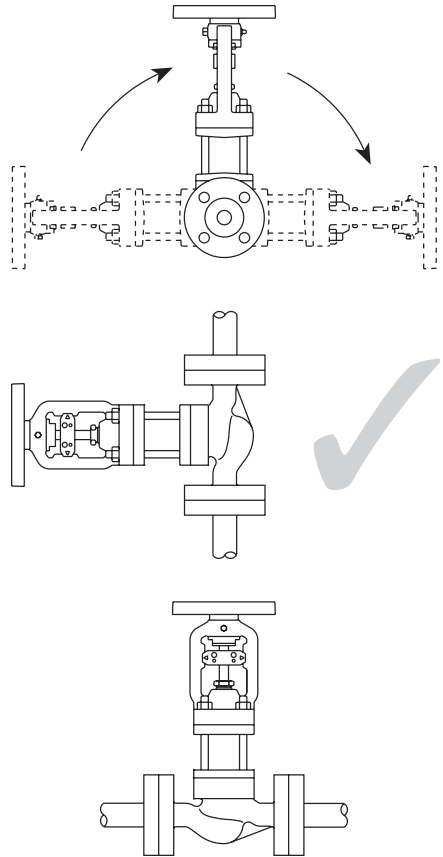

Fig. 3 **Incorrect installation**
- 3.3** Install the valve in the direction of flow given by the arrow on the body. The preferred position is with the spindle vertical. The valve can be installed from the vertical to the horizontal plane (see Figure 3).